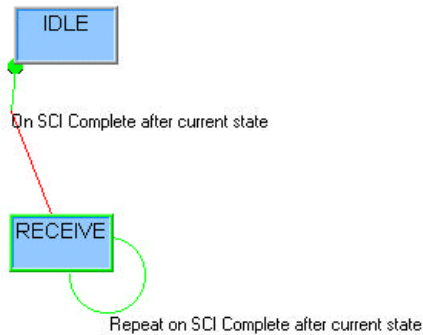
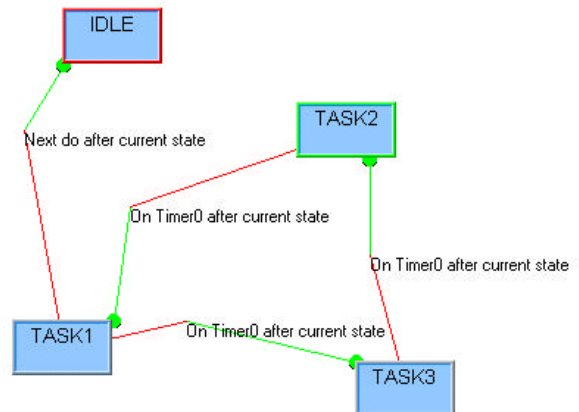

Figure 3. State-machine to echo back characters received on a serial port.
Figure 6. State diagram running 3 states in a cyclical fashion, driven by the timer.
The diagram in figure 3 shows a simple XPad state-machine, which waits for a serial character and echoes it back.
The diagram in figure 6 shows an XPad example for the Atmel AT89C2051.
**Note** that the state machines in figure 3 and figure 6 could be part of the same model. (For the same target MCU). The compiler just as easily generates code to run the 2 state machines in parallel.